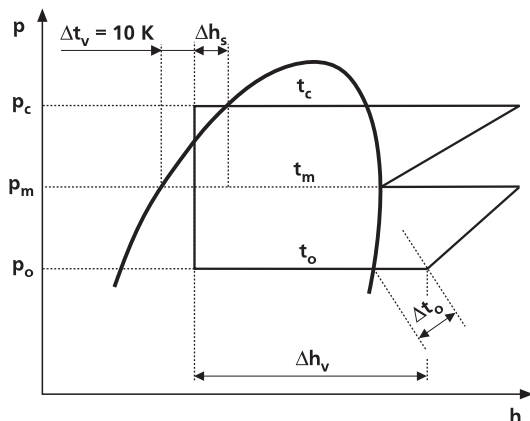

Fig. 2.8-11 Log p-h diagram
- $\Delta h_s, \Delta t_v, \Delta h_v$, refer to Fig. 2.8-11,